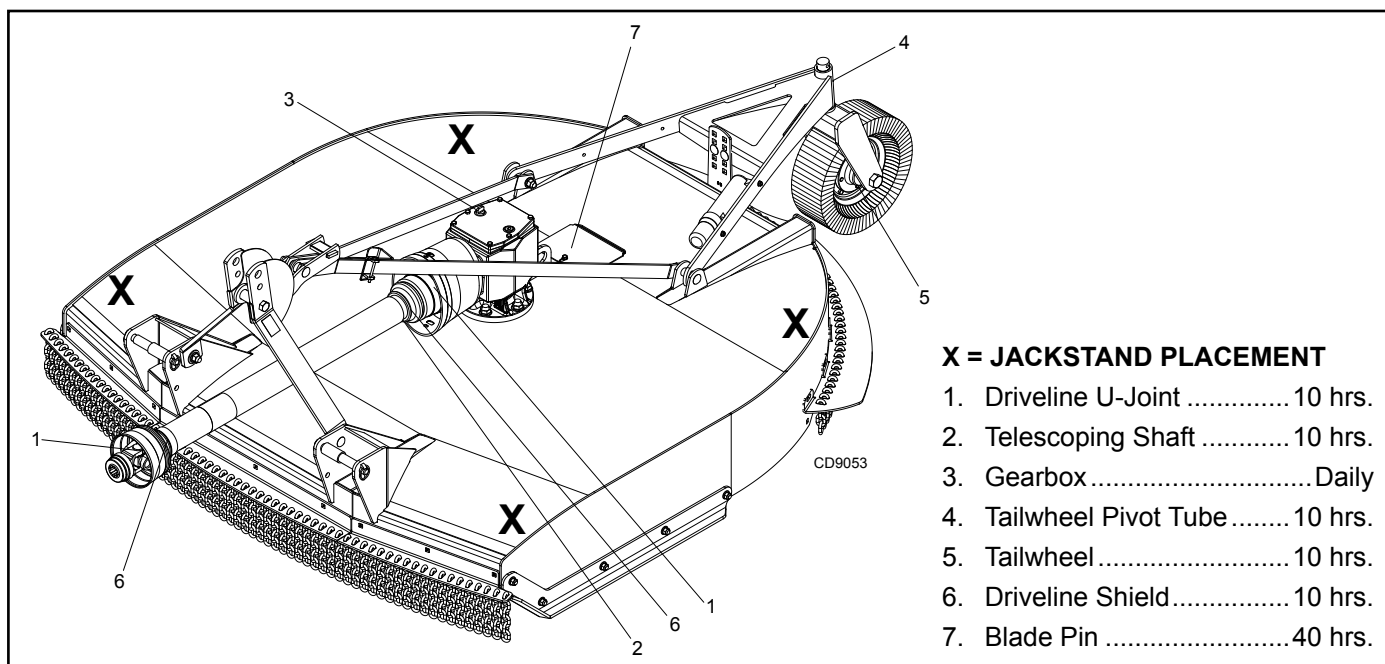

Figure 12. Jackstand Placement and Lubrication Points
1. Jackstands with a load rating of 1000 lbs. or more are the only approved blocking device for this cutter. Install jackstands (shown by Xs in Figure 12) under the cutter before working underneath unit.
2. See Figure 12 for lubrication points and frequency or lubrication based on normal operating conditions. Severe or unusual conditions may require more frequent lubrication.
- If blade pin (7) is seized in crossbar and extreme force will be needed to remove it, support crossbar from below to prevent gearbox damage.
2. Raise cutter and block securely (see Blocking Method, Figure 12).
3. Align crossbar (2) with blade access hole in the cutter frame. Remove cap screw, blade pin lock clip, keyhole plate, and shims. Carefully drive pin out of crossbar.